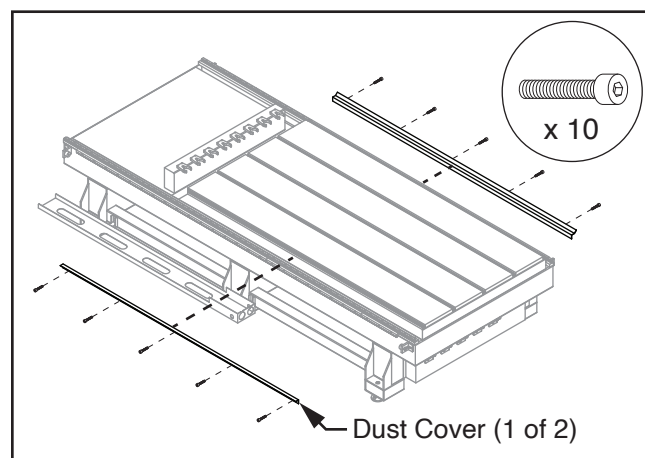

Figure 48. Installing dust covers (gantry removed for clarity).
21. Install (2) dust covers using (10) M6-1 x 8 cap screws pre-installed on both sides of router base table (see **Figure 48**).